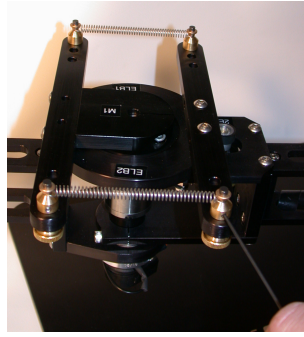

Figure 4.4: tightening The Setscrews
4. Clamp all four mounting posts by tightening the corresponding set-screws. This is shown in Figure 4.4. To do so, use a (1/16)" Allen key.